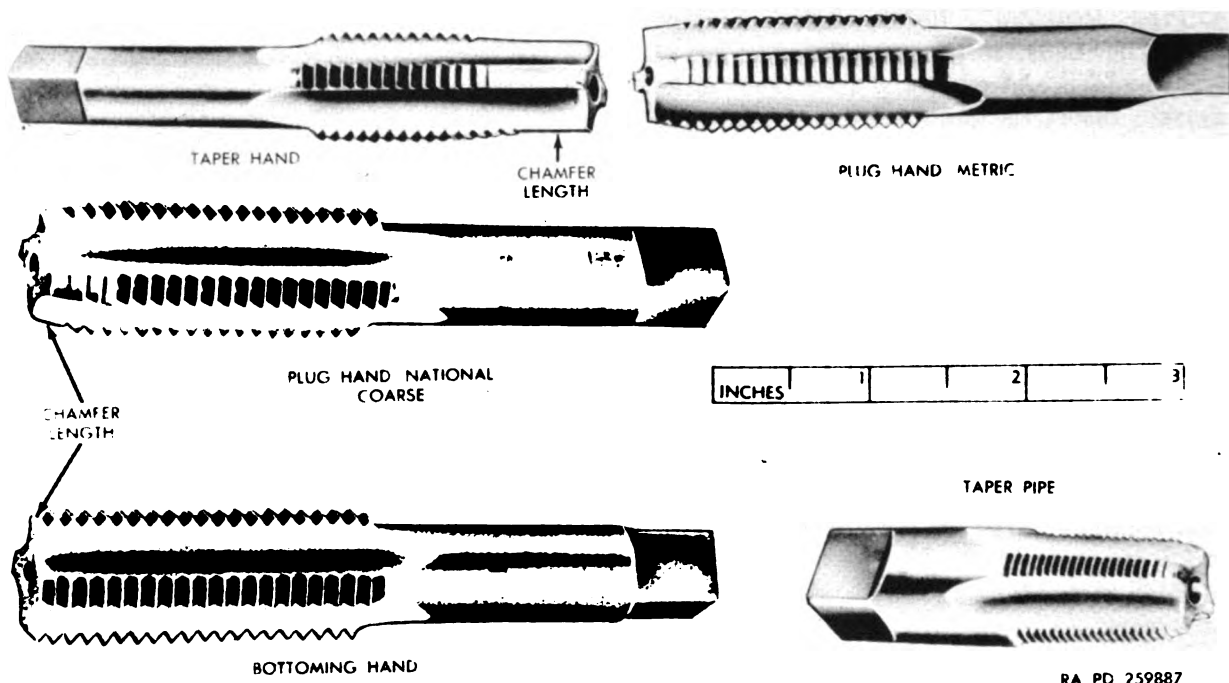
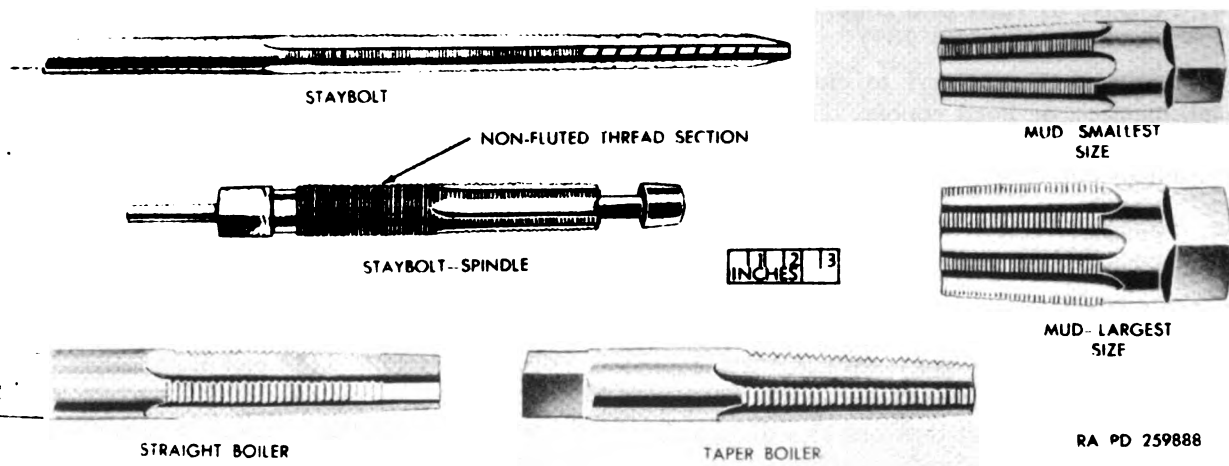

Figure 266. Types of common taps.
Figure 267. Special purpose taps.
223. Purpose of Taps and Dies (figs. 266 through 269)
There are several types of taps issued by the Army Ordnance supply system. However, the most common are the taper, plug, bottoming, and pipe taps (fig. 266). Special purpose taps (fig. 267) such as mud or washout taps, boiler taps, and staybolt taps are also discussed in this section.
a. *Taper Hand Tap.* The taper or starting hand tap (fig. 266) has a chamfer length of 8 to 10 threads. These taps are used when starting the tapping operation and tapping coarse threads in through holes especially in harder metals.
b. *Plug Hand Taps.* Plug hand taps (fig. 266) are designed for use after the taper tap, and in through holes when tapping softer metals or fine-pitch threads. They have a chamfered length of 3 to 5 threads. These taps are the most popular.
taps (fig. 266) are used for threading the bottom of a blind hole. They have a very short chamfer length, of only 1 to 1½ threads for this purpose. This tap is always used after the plug tap has already been used and for hard materials. Both the taper hand and plug hand taps should precede the use of the bottoming hand tap.
d. *Pipe Taps.* A taper pipe tap (fig. 266) is used for pipe fittings and on other places where extremely tight fits are necessary. The tap diameter, from end to end of threaded portion, increases at the rate of ¼ inch per foot. All threads on this tap cut, as compared to the straight taps where only the non-chamfered portion does the cutting.
e. *Boiler Taps.* Straight boiler taps (fig. 267) range in diameter from ½ to 1½ inches. The chamfered portion of the thread simplifies starting. Taper boiler taps have no chamfered portion and the threaded portion is tapered ¾ inch per foot. The overall and shank diameters are similar to those of straight boiler taps.
f. *Staybolt Taps.* Staybolt taps (fig. 267) are used principally in boiler locomotive and railroad shops for tapping the staybolt holes in the outer and inner plates or shells of boilers.
g. Mud or Washout Taps. Mud or washout taps (fig. 267) have 6 flutes with a $1\frac{1}{4}$ -inch taper per foot and 12 threads per inch. They are used to cut special American National or V-form threads when tapping mud plug drain holes.
b. Tap Design. A tap (figs. 266 and 267) is a threading tool designed to produce a completed internal thread and to make threading